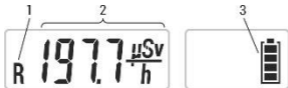

Figure 2.4 – LCD of the dosimeter (display of photon ionizing radiation DER).
2.3.3.7.2 The dosimeter's LCD shows the following information (Figure 2.4):